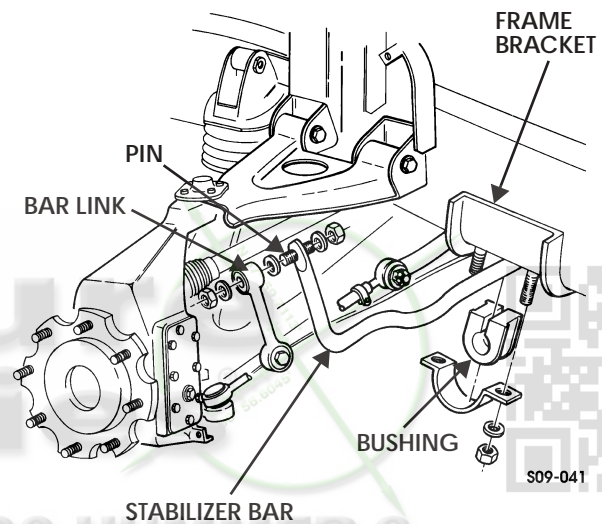

Figure 9-2: Stabilizer Bar
1. Remove two locknuts, three washers, and pin securing bar link to stabilizer bar. Discard locknuts (Figure 9-2).
1. Install bushing on stabilizer bar (Figure 9-2).